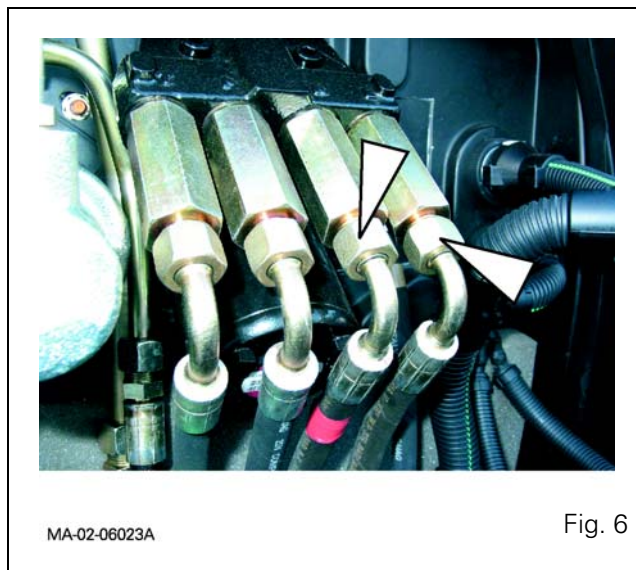

Fig. 6
18. If necessary, mark and disconnect the steering ram hoses on the spool valve (orbitrol) (Fig. 6).